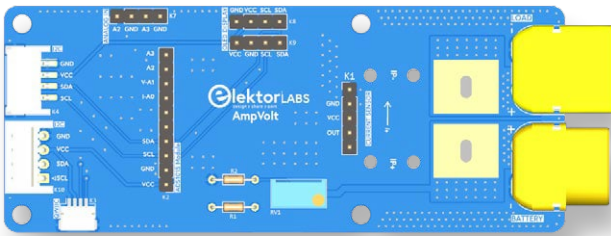

Figure 3: The AmpVolt v2.0C Variant was configured for compact sensor modules based on the CT432/433.
- AmpVolt v2.0C: Similar to v2.0B, this version is specifically designed for compact modules based on the CT432/433 current sensors (Figure 3). As with v2.0B, the same current load recommendations apply to ensure reliable operation and prevent damage.